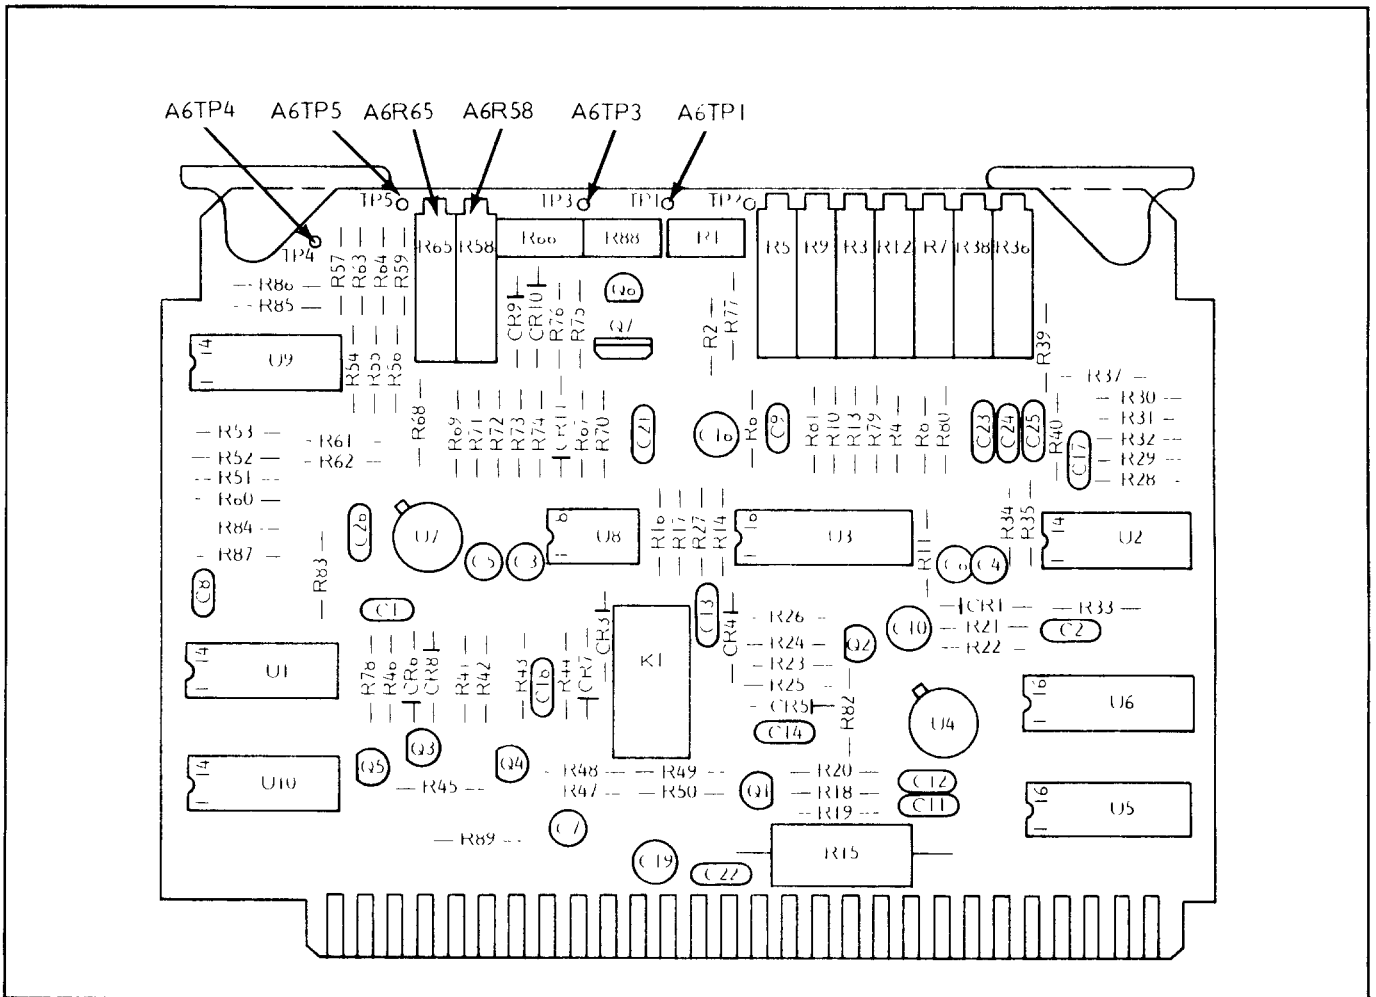

Figure 5-18. A6 Het/YIG Driver Adjustments
6. Connect the common lead on the digital multimeter (DMM) to A6TP1 (Figure 5-18) and the test lead to A6TP5.